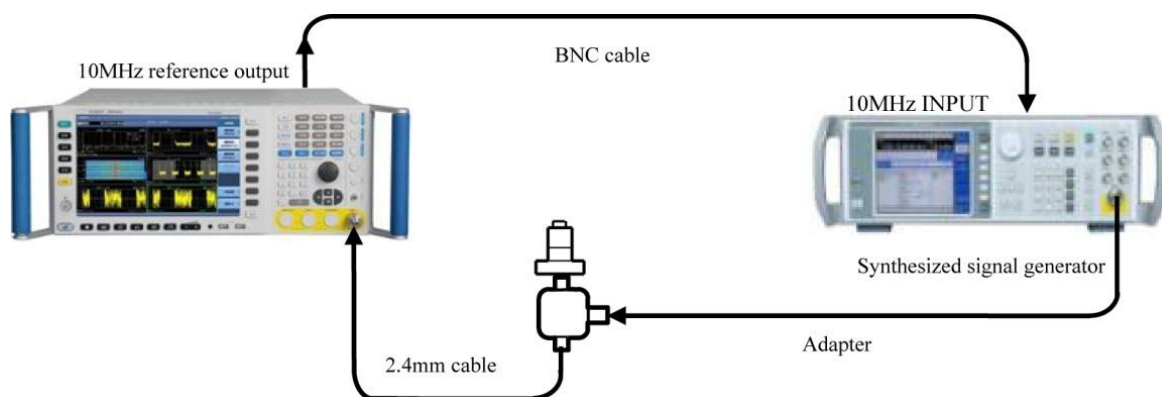

Fig. 8.10 Schematic diagram of frequency response test (3Hz ~ 50MHz)
- 39) Connect the test instrument as shown in Fig. 8.10 and then connect two output interfaces of the power divider to 50 Ω load and the signal/spectrum analyzer respectively.